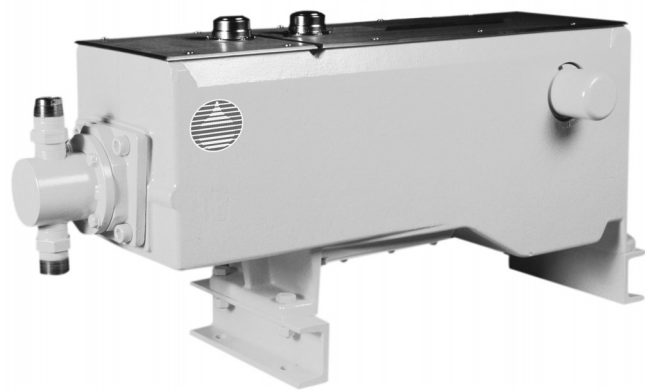

Figure 2. Packed Plunger Liquid End (See manual 339-0074-000)
The pump consists of three major components: (1) a drive unit, (2) a reciprocating plunger, and (3) a liquid end. Pump delivery is a function of drive speed, plunger stroke length, and plunger diameter. In addition, delivered volume for a given pump can be varied by mechanical (micrometer hand knob) or (optional) electrical or pneumatic adjustment of plunger stroke length. Pump drives may be fitted with HPD (High Performance Diaphragm, Manual 339-0014-000) as well as several styles of PP (Packed Plunger, Manual 339-0074-000) liquid ends (See Figures 2 and 3). This manual will concentrate on the mechanically adjusted drive unit only.